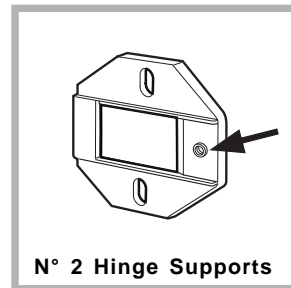

Fig. 1
- Fit the hinge supports to the appliance front panel, positioning the hole marked with an arrow in *fig. 1* so that it is on the inner side of the front panel. Fit a spacer (*fig. 4/B*) between the surfaces using type C screws.